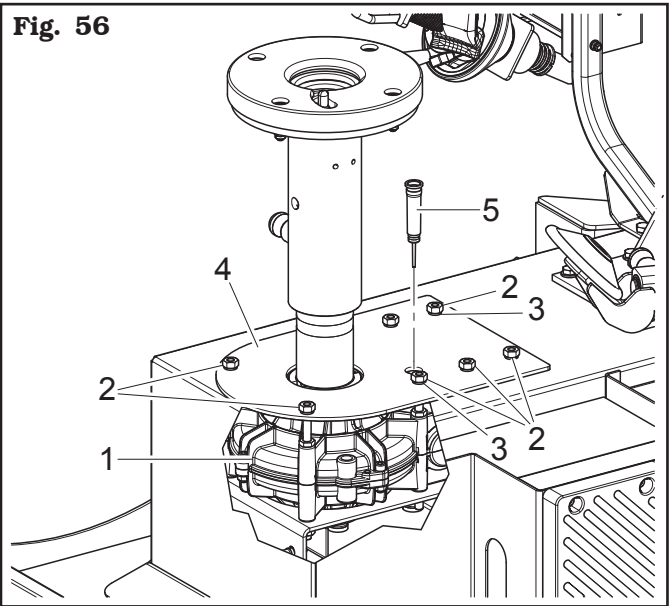

Fig. 56
- At regular intervals, (at least every 100 working hours) check reduction gear (**Fig. 56 ref. 1**) lubricating oil level. Such operation must be effectuated unscrewing the nuts (**Fig. 56 ref. 2**) and the washers (**Fig. 56 ref. 3**), removing the flange (**Fig. 56 ref. 4**) and the plug (**Fig. 56 ref. 5**) on the reduction gear.